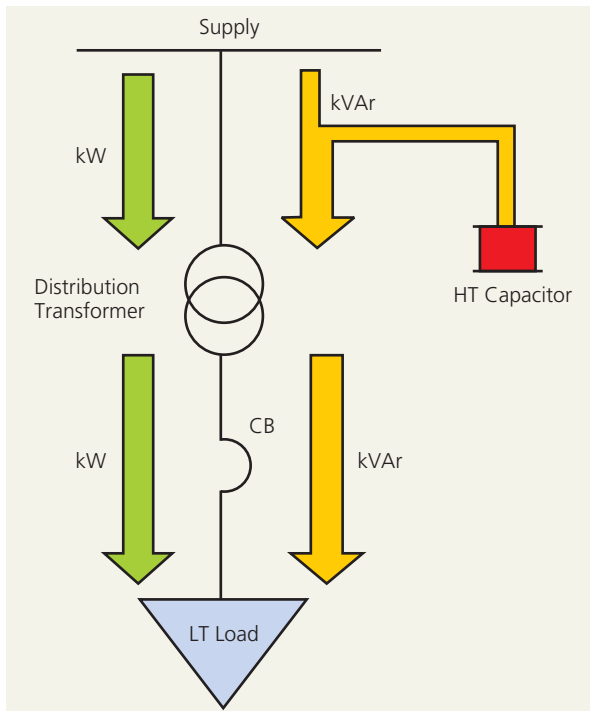
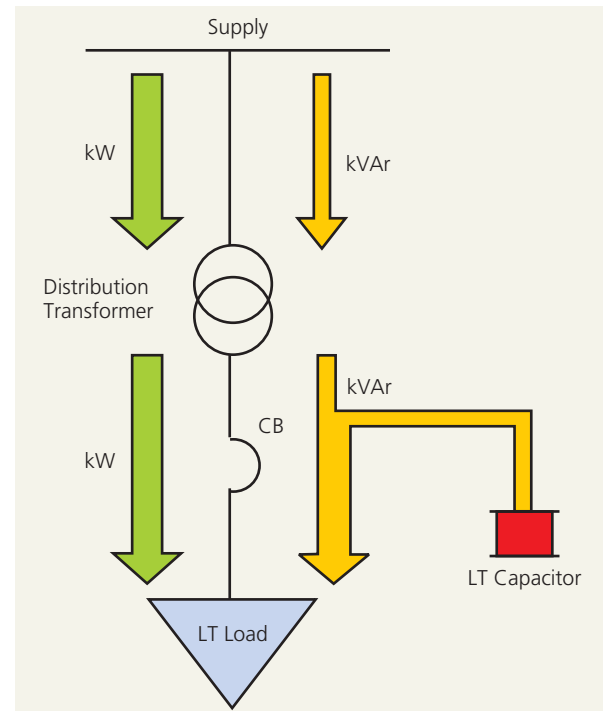

Fig 1: Compensation on HT Side
Fig 2: Compensation on LT Side
A vast majority of electrical loads in low voltage industrial installations are inductive in nature. Typical examples are motors and transformers, which consume both active and reactive power. The active power is used by the load to meet its actual work requirements whereas reactive power is used by the load to meet its magnetic field requirements. The reactive power (inductive) is always 90° lagging with respect to active power as shown in figure 1. Figure 2 & 3 show the flow of kW, kVAr and kVA in a network.
- Higher kVA demand from supply system as given in figure 2
Consider two cases with compensation provided on HT and LT side respectively as shown in figure 1 and 2.
As seen in fig 1, with the capacitor connected on the HT side, the compensated reactive power flow through the transformer does not reduce and hence there is no change in current flow. Although the HT side power factor is improved, the LT side power factor remains same. However, as seen in fig 2, connecting capacitor on LT side reduces the reactive power flow through the transformer and we get improved power factor and reduced current flow on both LT and HT sides.